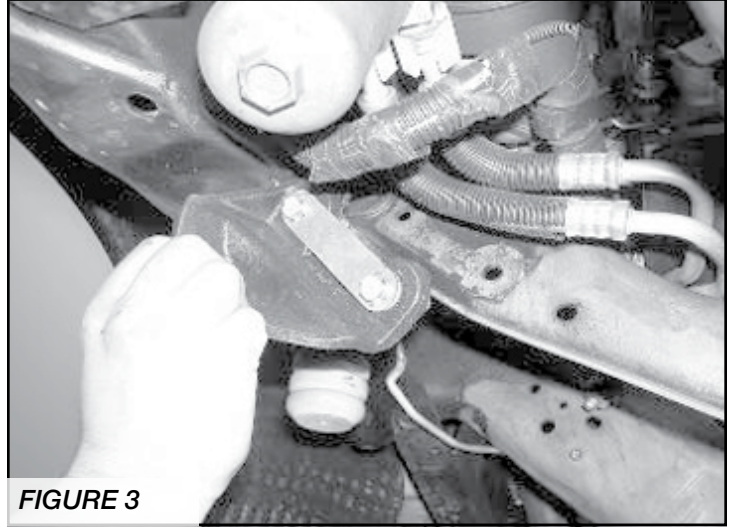

FIGURE 3
5. Remove the factory steering stabilizer from the frame mount and save the hardware. Remove the steering stabilizer frame bracket and save the hardware. Discard the frame bracket. Leave the steering stabilizer connected to the drag link. **SEE FIGURE 3**